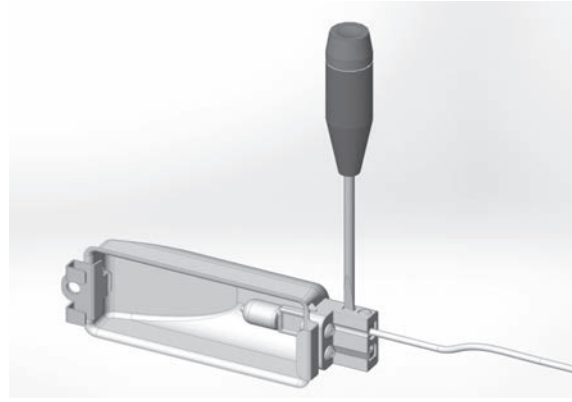

Figure 11
3. If needed, use a small flat-blade screwdriver to carefully pry off the lens and set aside. Loosen the 2 screws closest to the lamp housing (Fig. 11). These screws hold the bulb in place. The bulb should come out easily. The bulb is a 20W halogen “Bi-Pin” type, available at most hardware stores & home centers.